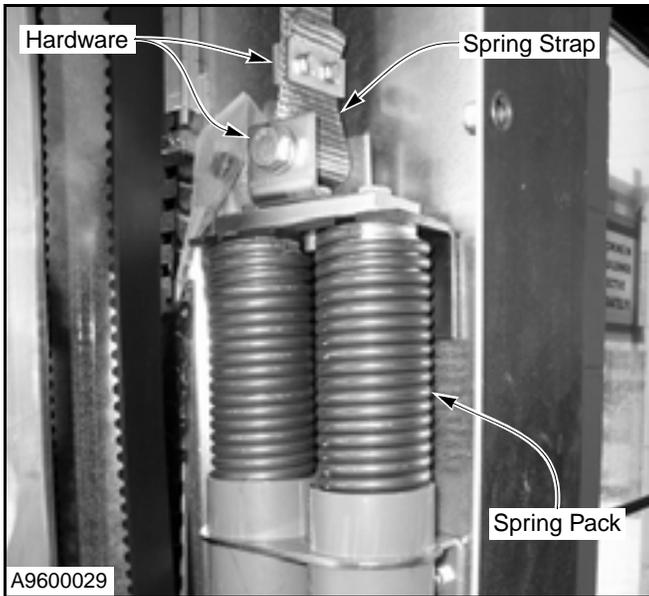

Figure 28
5. Inspect the hardware securing each spring strap to its spring pack. Tighten the hardware as required. Replace any missing or damaged hardware. (See Figure 28.)